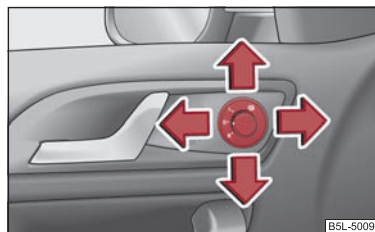

Fig. 54 Inner part of door: Rotary knob
- Turn the rotary knob to position  ⇒ fig. 54.
On vehicles fitted with a memory for the driver seat, the surface of the mirror tilts down slightly when the rear gear is engaged and the rotary knob is in the position R ⇒ page 62, fig. 54. This provides an aid in seeing the kerb of the pavement when parking the car.